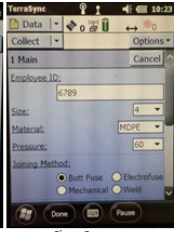

Figure 3.
6. Fill out the data entry fields. Fig. 3 and 4 shows an example of data entry screen. As the data entry fields are being completed, the device is collecting GPS points. The bull's eye in the top-right of the screen will begin to count. The underlined features are required fields. Complete the necessary data fields and allow at least 30 seconds to pass while doing so. Click **Done**. Please note: service valves should be collected under "Valves".